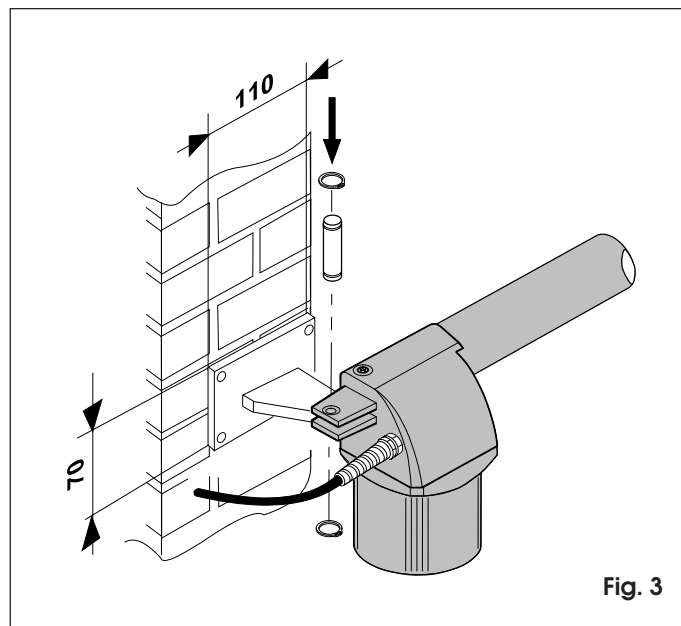

Fig. 3
In the case of brick/concrete gate posts, flush-mount a wall plate (fig. 3), and weld the bracket to the plate.
- 2) Fix the operator to the rear bracket by means of the screws supplied (fig. 3).
For correct installation the operator must be positioned as shown in fig. 3.